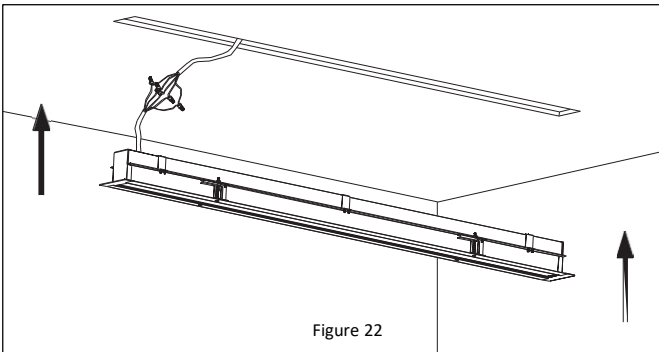

Figure 22
5. Make wiring connections according to the **Wiring Diagram**. *See Figure 22.*